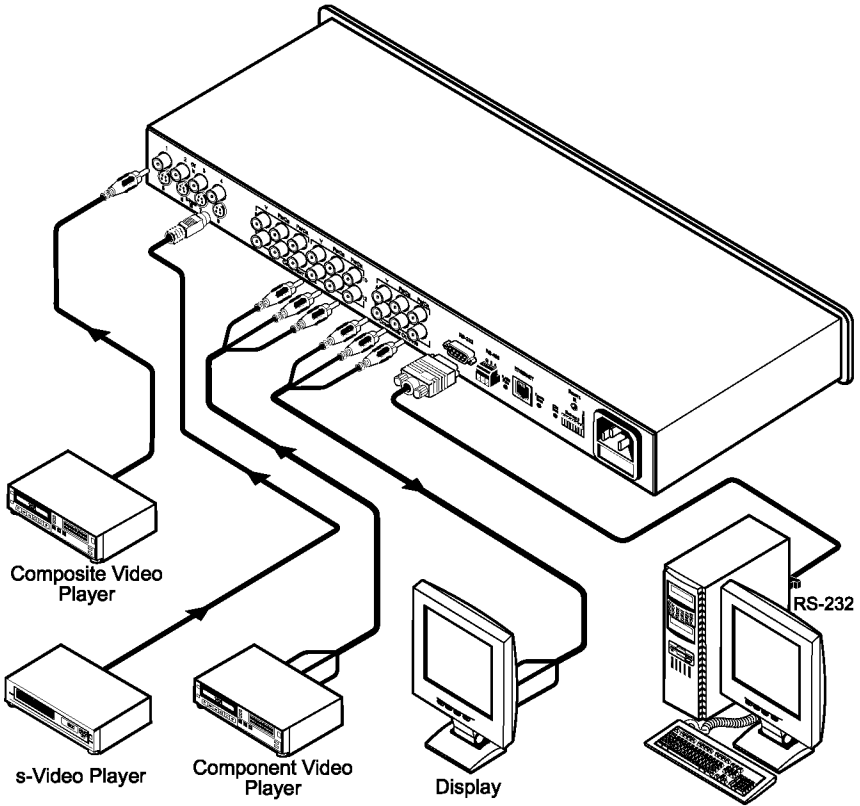

Figure 2: Connecting the VS-121HC Switcher / Transcoder
To connect devices to the **VS-121HC**, as illustrated in the example in *Figure 2*, perform the following:
3. Connect the power cord (not shown in *Figure 2*).